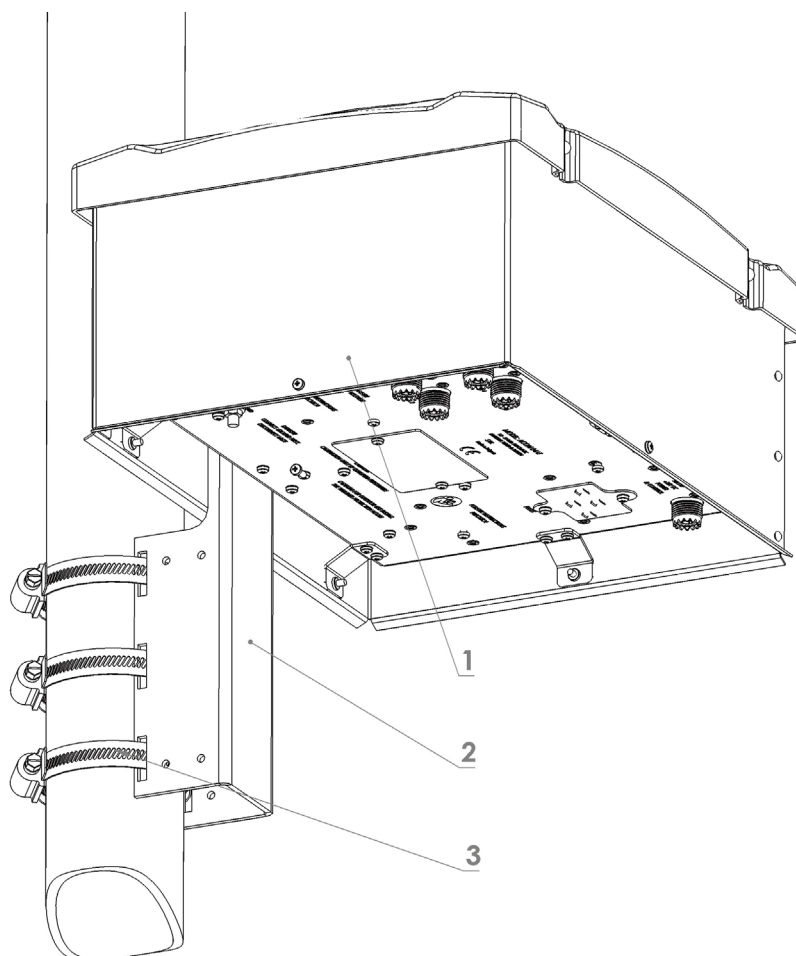

Fig. 2-7. Securing the ATU to a mast
The whole assembly – figure 2-7 (1 & 2) is secured to the mast with the connectors facing down using three hose clamps (3). Always secure any loose cables, guy wires or any other object that might fall on or hit the tuner assembly.